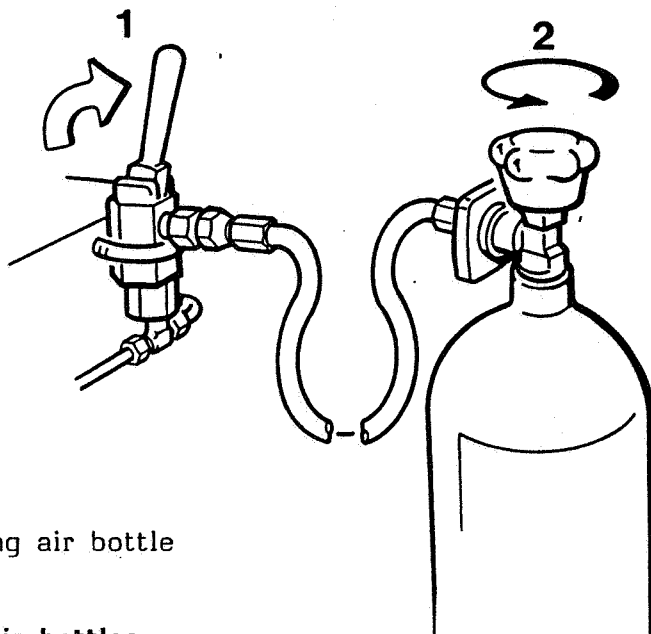

Fig. 15.5 Filling air bottle
- Set filling valve handle to filling position (fig. 15.5).